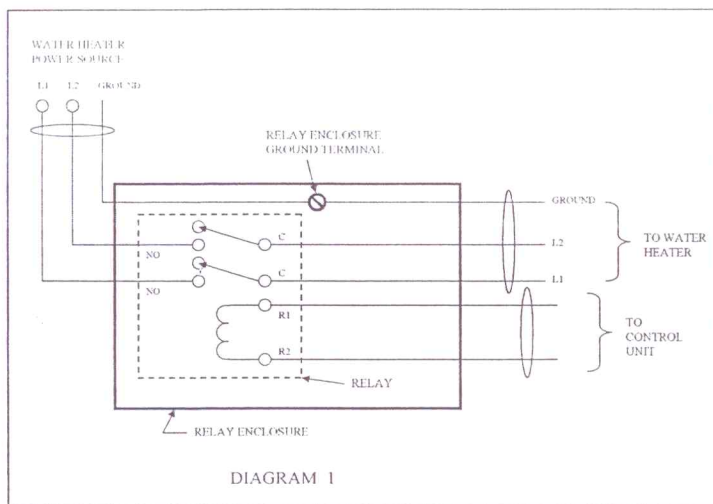
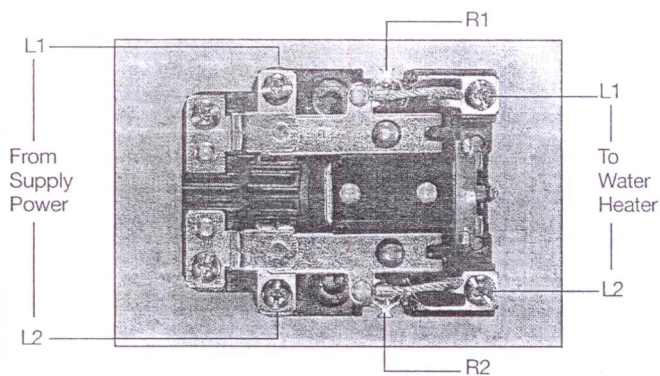

Figure 7
Figure 8
3. Install the incoming supply power to the normally open contacts of the relay as shown in the wiring diagram **Figure 7** and **Figure 8**. Be certain to connect a ground wire to the relay enclosure, as shown in **Figure 7**.
4. Connect the power cable to the water heater to the common terminals of the relay, as shown in the wiring diagram **Figure 7**.